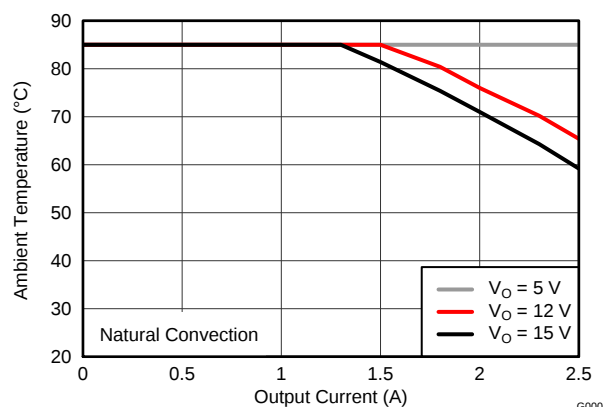

Figure 23. Safe Operating Area
- (3) The temperature derating curves represent the conditions at which internal components are at or below the manufacturer's maximum operating temperatures. Derating limits apply to devices soldered directly to a 100 mm $\times$ 100 mm double-sided PCB with 1 oz. copper. Applies to Figure 23.